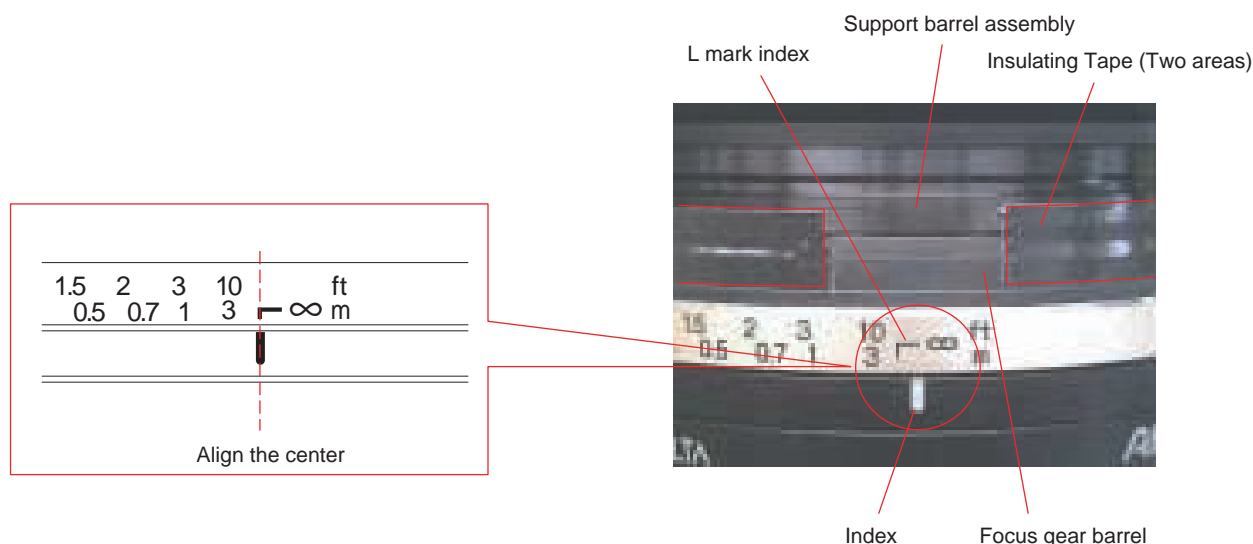

Fig4-4-6
- 3) Set the support barrel assembly of the checking lens to infinity position (center of the “L” mark index). (Fig. 4-4-6)
- 6) Peel off the two insulating tapes. (Fig 4-4-6)
- 8) Set the focus gear barrel to the infinity position (infinity end) while maintaining the support barrel assembly so as not to rotate it. Affix the two insulating tapes. (Fig 4-4-6)